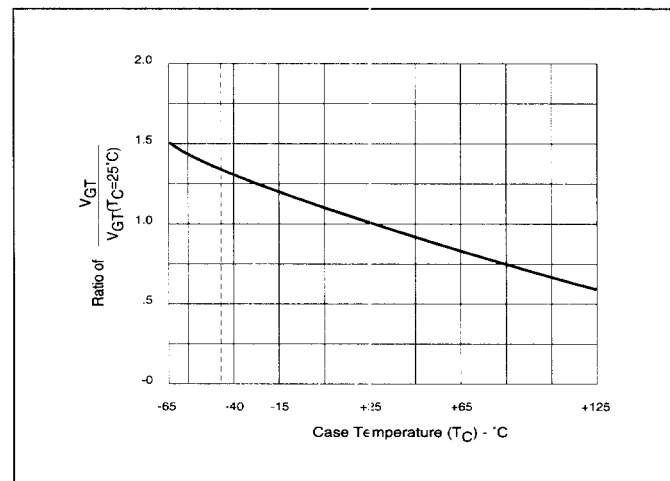

Figure 2.12 Normalized DC Gate Trigger Voltage for All Quadrants vs Case Temperature
- (6) See Figure 2.12 for V_{GT} vs T_C .